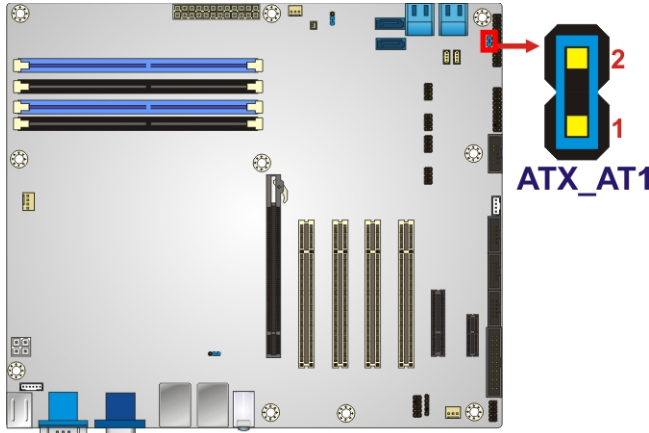

Figure 4-8: AT/ATX Power Mode Jumper Location
- Jumper Location:** See **Figure 4-8**